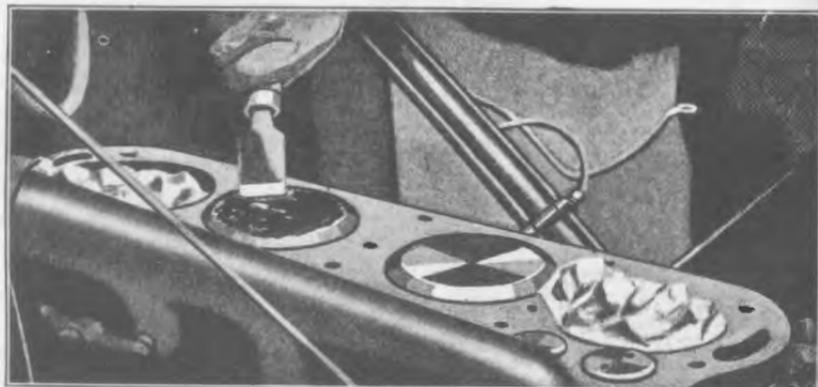

Fig. 219
- 367 Turn engine over with starting crank until No. 2 and No. 3 pistons arrive at top center and the intake and exhaust valves of these cylinders close. Place cloths in No. 1 and No. 4 cylinders, and scrape carbon from top of cylinder block, heads of pistons and valves (a flat scraper or small putty knife can be used for this purpose) (See Fig. 219). Blow off any loose carbon with compressed air. (If the valves are to be ground time can be saved by removing carbon from valves with a buffing wheel.) When the carbon is removed from No. 2 and No. 3 pistons, turn engine over until No. 1 and No. 4 pistons are at top of cylinder and place cloths in No. 2 and No. 3 cylinders and repeat the carbon cleaning operation until all pistons